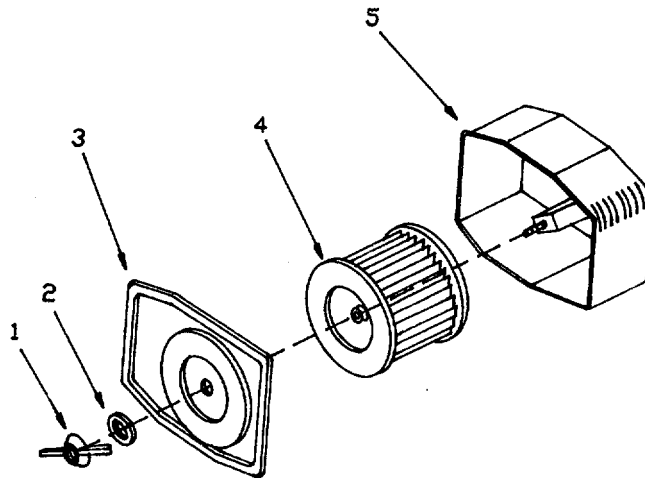

Figure 3-2. Intake Air Cleaner.
(1) Remove plain wingnut (1, Figure 3-2), seal washer (2), and access cover (3).
(2) Remove filter element (4) from air cleaner case (5).